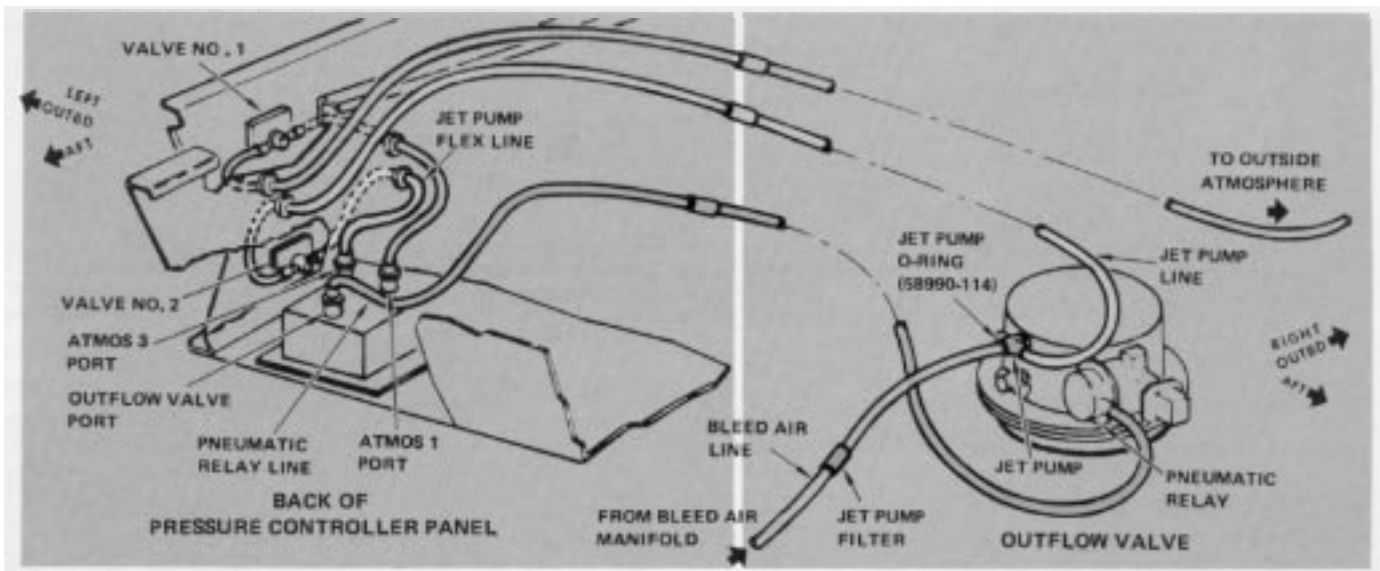

Figure 2. Cabin pressurization control components.
4. Disconnect the jet pump flex line from the ATMOS 3 port located on the back of the pressure controller (Figure 2) and connect the vacuum gage to the jet pump flex line. On A-model Hercules aircraft, you may find that it is easier to connect the vacuum gage directly to the jet pump, which is located on the outflow valve (Figures 2 & 3). To do so, first disconnect the jet pump line from the aft port of the jet pump.
5. Check the vacuum gage reading. If it is greater than 5 inches of mercury (in. Hg), proceed to Step 6. If the indication is less than 5 in. Hg, clean the jet pump filter (Figure 2) and inspect the lines to and from the jet pump. Recheck the output of the jet pump, and if it is now greater than 5 in. Hg, go on to Step 6. If not, check the tightness of the bleed air line fitting at the jet pump and make sure that the closure of the jet pump O-ring (P/N 58990-114) is airtight.
7. Disconnect the pneumatic relay line from the OUTFLOW VALVE port at the back of the pressure controller and attach the vacuum gage to the OUTFLOW VALVE fitting on the pressure controller (Figure 2).